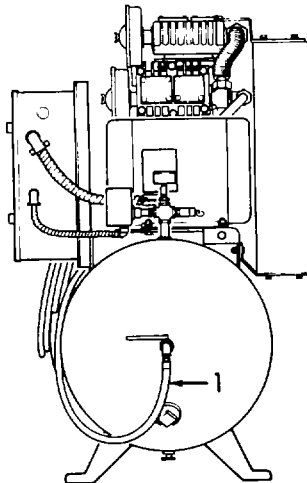

Figure 3-42. Flexible Hose, Installation.
- (1) Inspect fittings for damage.
- (2) Inspect hose for damage.
e. Installation. Connect the flexible hose (1, Figure 3-42) to the tank.